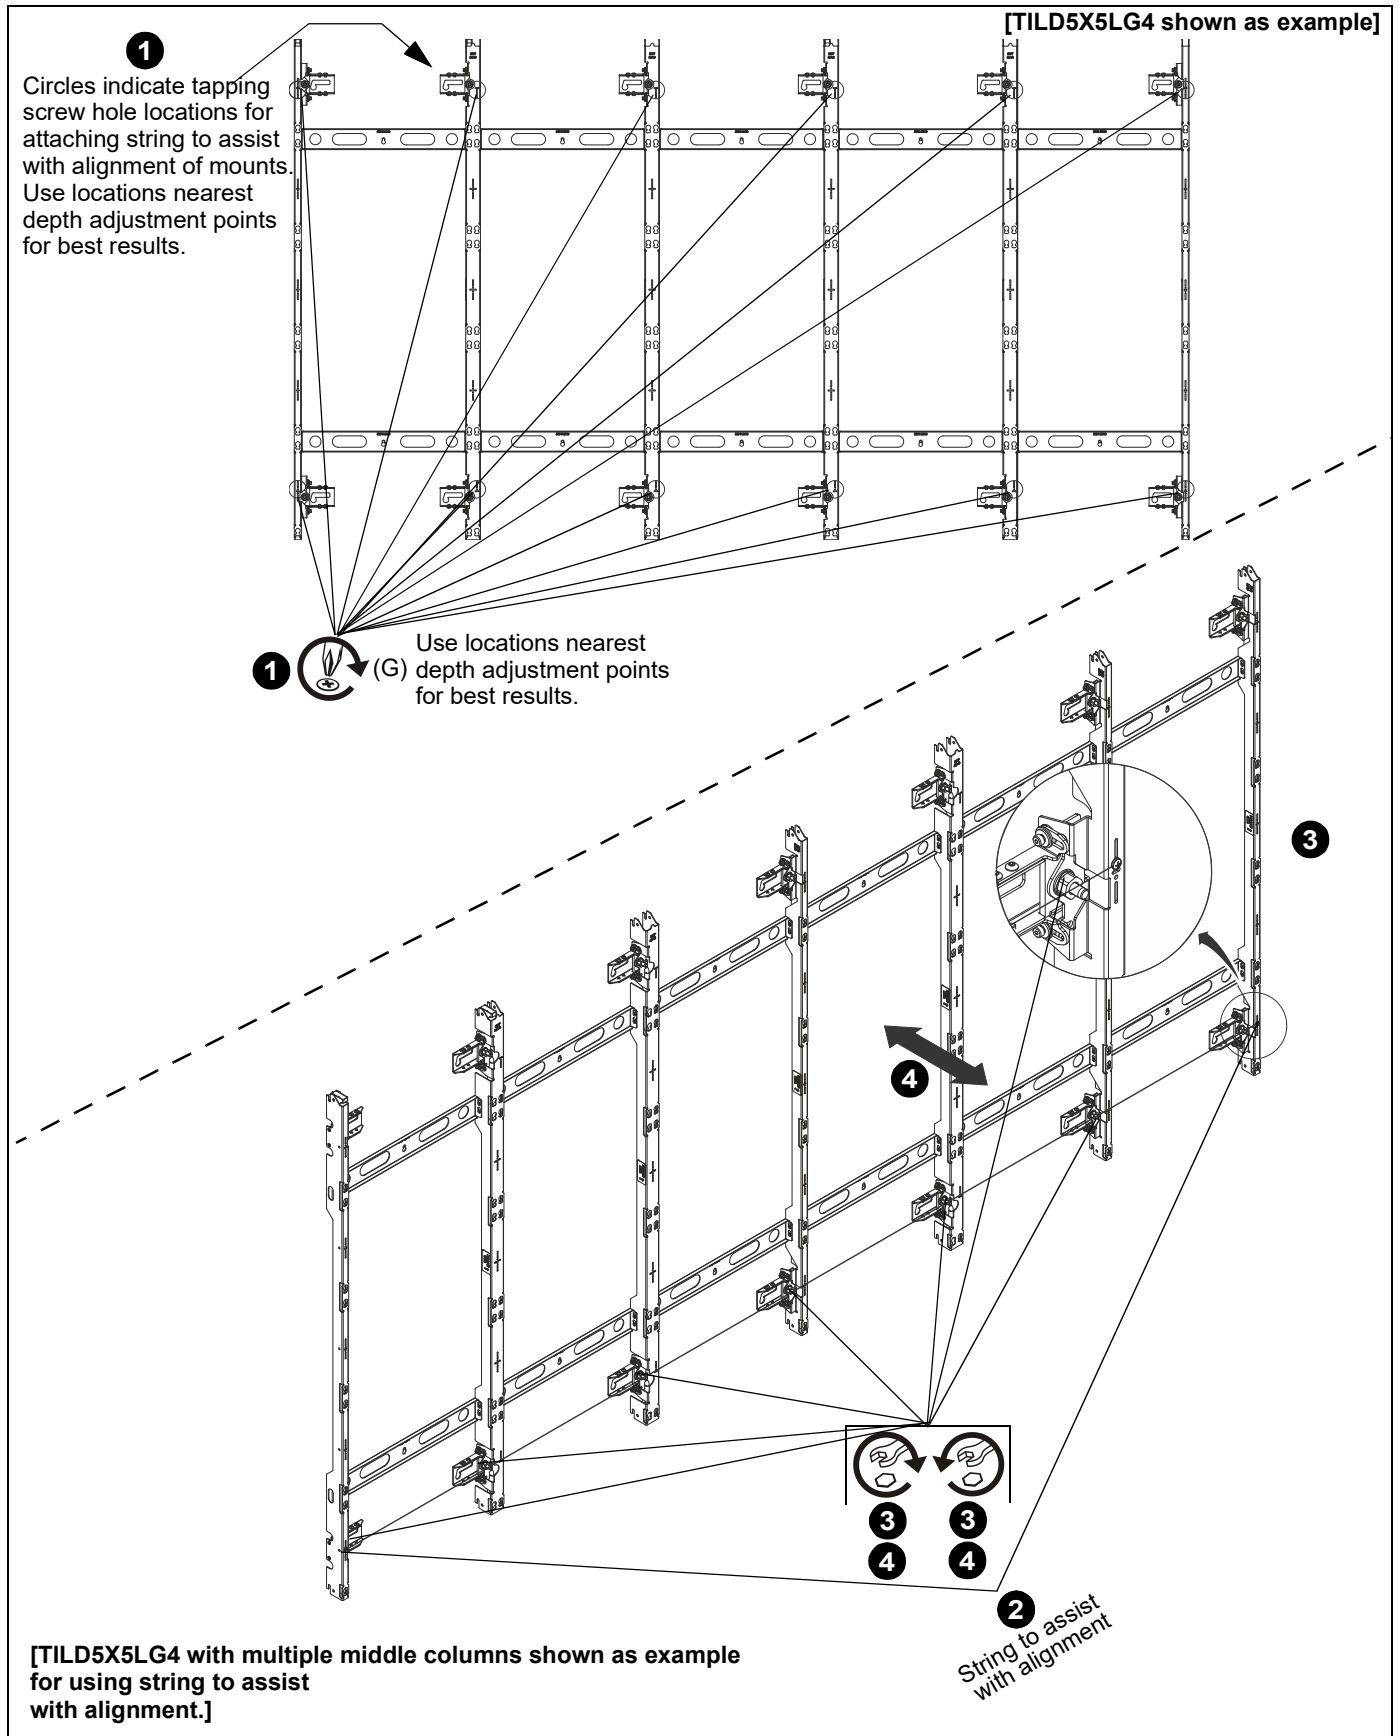

Figure 21
11. Install two fasteners and fender washers (D) through lower part of mount and tighten.
12. Continue the installation process until all wall mounts are attached. Use a magnetic level on front face of outside uprights to make sure they are plumb. Use a 3/4" or 19mm socket wrench to adjust hex nuts as needed. (See Figure 21)
1. Install #10 x 1/2" self-tapping screws (H) on the mount in the far left and far right uprights to assist in plumb leveling. (See Figure 21)
2. Run a string between the self-tapping screws installed in **Step 13** to assist with alignment across long sections of mounts. (See Figure 21)
3. Turn hex nuts in either direction on far left and far right uprights to assist in plumb leveling. (See Figure 21)
4. Turn hex nuts in either direction on each middle upright to adjust depth to match the string line as needed. (See Figure 21)